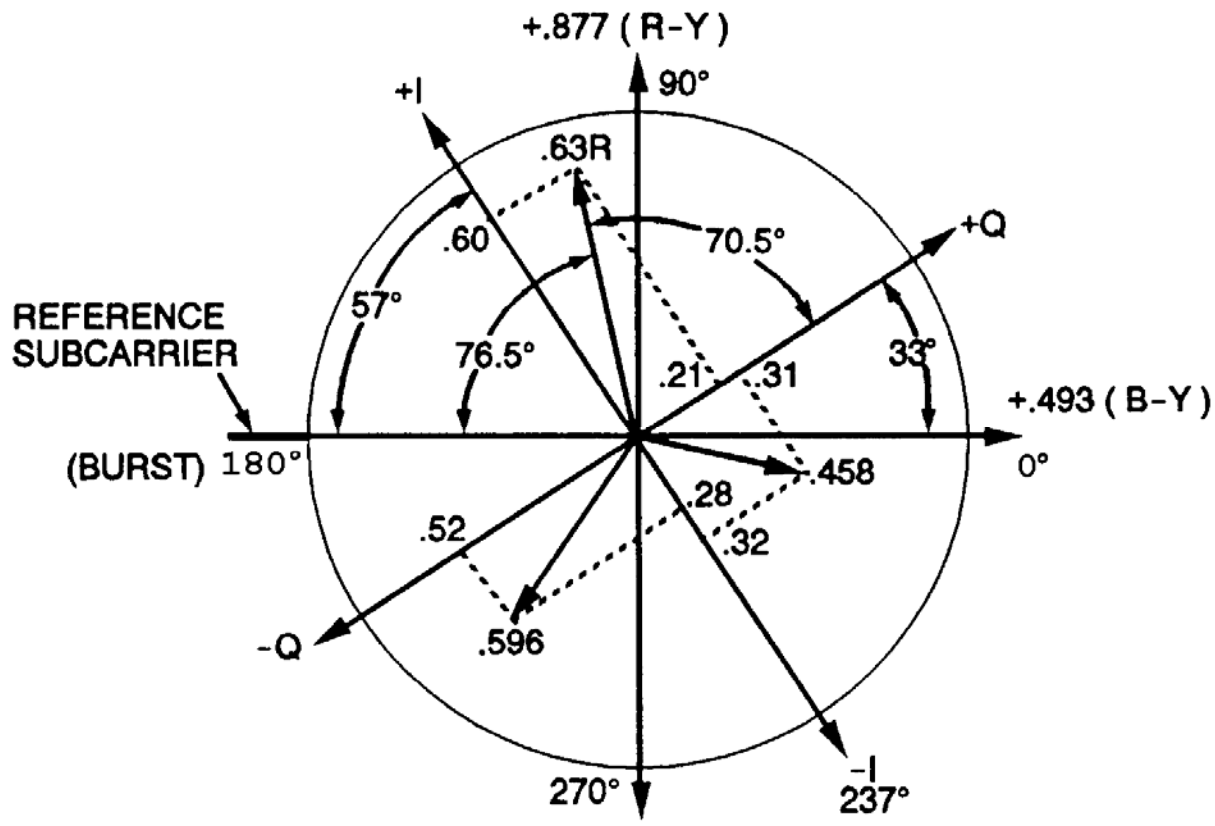

Figure S-23. Vector Diagram
j. Figure S-23 is a vector diagram of the I and Q color coordinates and their relationship to the old R-Y/B-Y system. The I and Q signals are produced with their phase coordinates 90 degrees from each other. The +I signal is 57 degrees from the reference subcarrier, with -I at 237 degrees (180 degrees) from +I. The +Q signal is displaced 57 degrees (+90 degrees), or 147 degrees from the reference subcarrier, with the -Q signal 180 degrees from it, or 327 degrees from the reference subcarrier.
(2) FCC standard phase relationships between the I and Q signals and the color synchronizing burst are shown in the vector diagram (refer back to Figure S-23). The I and Q signals are transmitted in phase quadrature; the color burst (referred to as reference subcarrier) is transmitted with an arbitrary 57 degrees phase lead over the I signal.